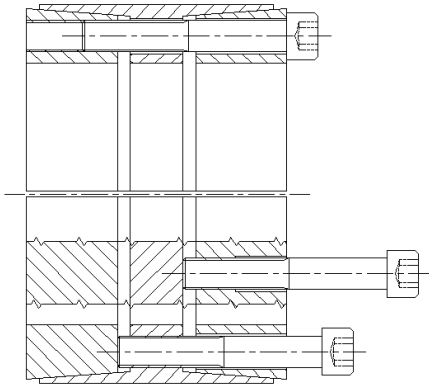

Figure 1
2. To lock out mating tapers and prevent engagement during assembly, transfer at least two locking screws into integrated jacking holes in front collar, and at least two locking screws into integrated jacking holes in center (see bottom of Figure 1).